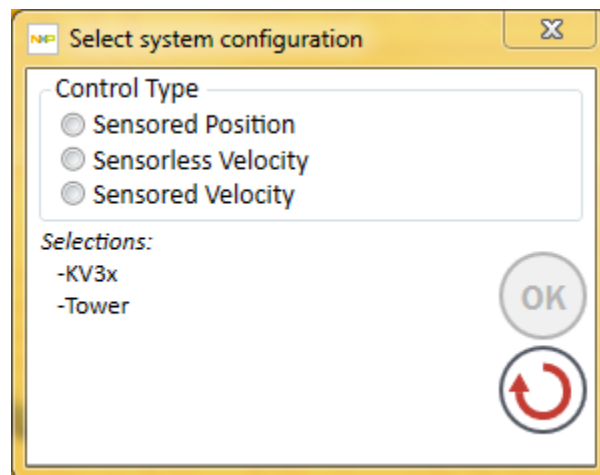

Figure 17. Select control type
3. Select the type of control that will be used in the application (Figure 17)